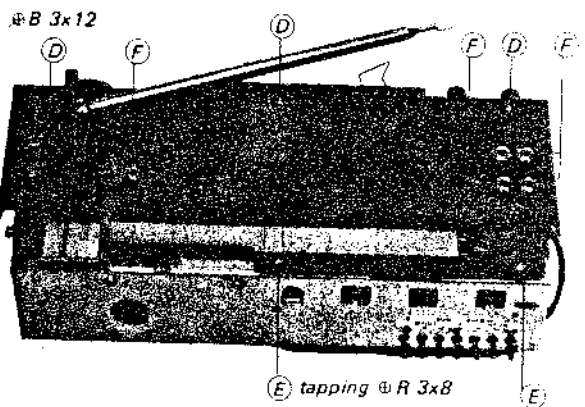

Fig. 2-2
2. Remove the three screws (Ø B 3x12) marked (D), and the two tapping screws (Ø R 3x8) marked (E) in Fig. 2-2.
3. Remove the five jack nuts marked (F) in Fig. 2-2.
4. Remove the rear cabinet in the direction shown by the arrow in Fig. 2-2.